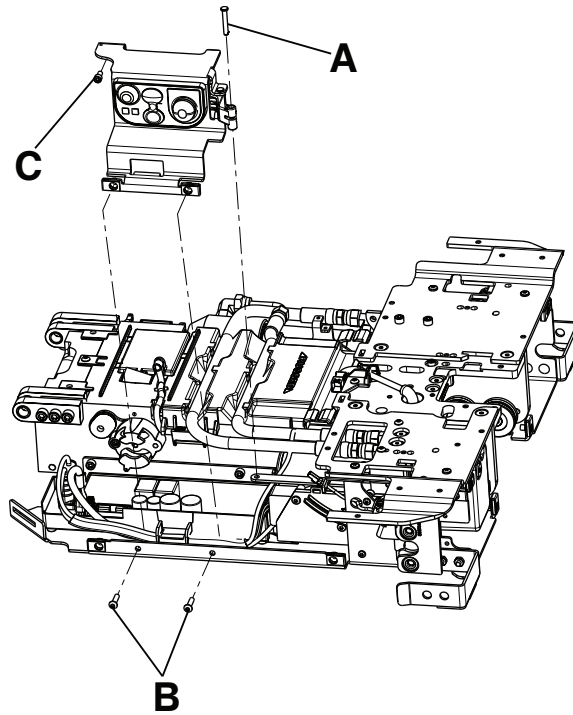

Figure 8 – Manual release button assembly
4. Remove the slic pin (A) from the switch/bracket assembly (Figure 8).
5. Using a T25 Torx driver, remove the two button head cap screws (B) that secure the manual release button bracket to the trolley frame (Figure 8).
6. Using a 5/32" hex wrench, loosen (do not remove) the socket head cap screw (C) that secures the manual release button bracket to the trolley frame (Figure 8).